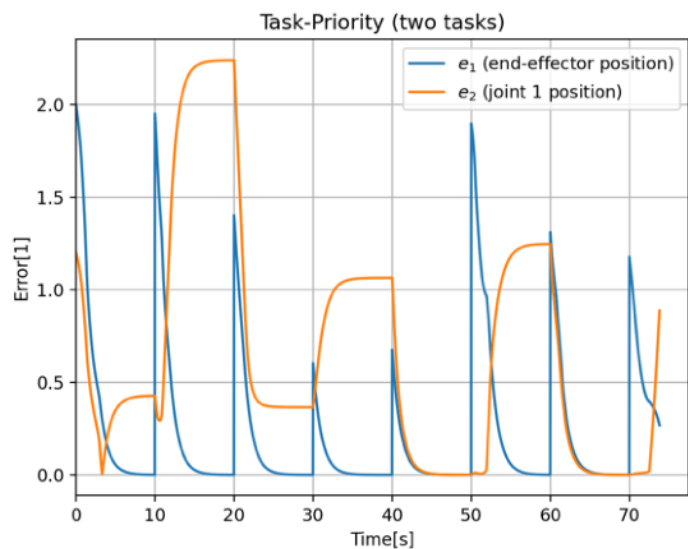

Fig 4. Evolution of the TP control errors.
- 3) Plot presenting the evolution of the norm of control errors related to both defined tasks over time (see Fig. 4).